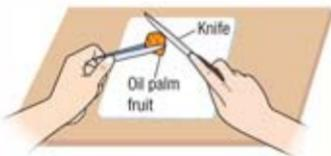

Figure 5.19
1. Place an oil palm fruit on a white tile. Hold the oil palm fruit using forceps and make a cross-sectional cut on the oil palm fruit using a knife (Figure 5.19).